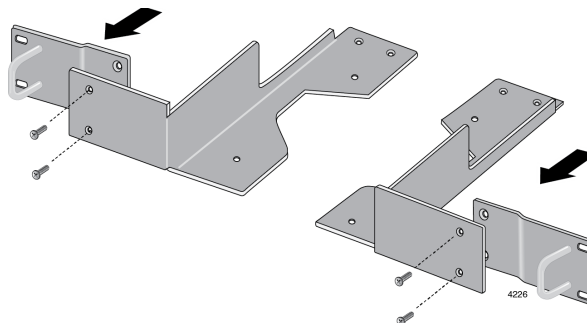

Figure 28. Attaching Brackets to Plates
3. Attach the short bracket and handle to the long bracket with M4x6mm screws using a Phillip-head screw driver as shown in Figure 28.